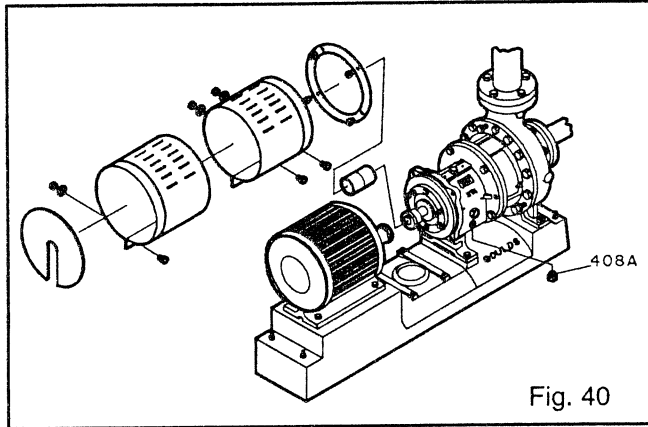

Fig. 40
- If oil lubricated, drain oil from bearing frame by removing bearing frame drain plug (408A). Replace plug after oil is drained. Remove oil reservoir, if equipped (Fig. 40).